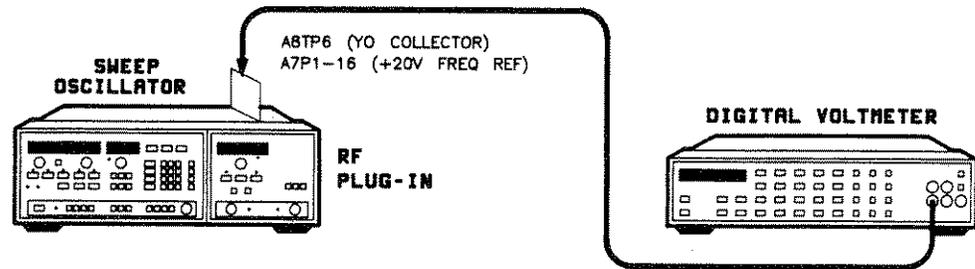
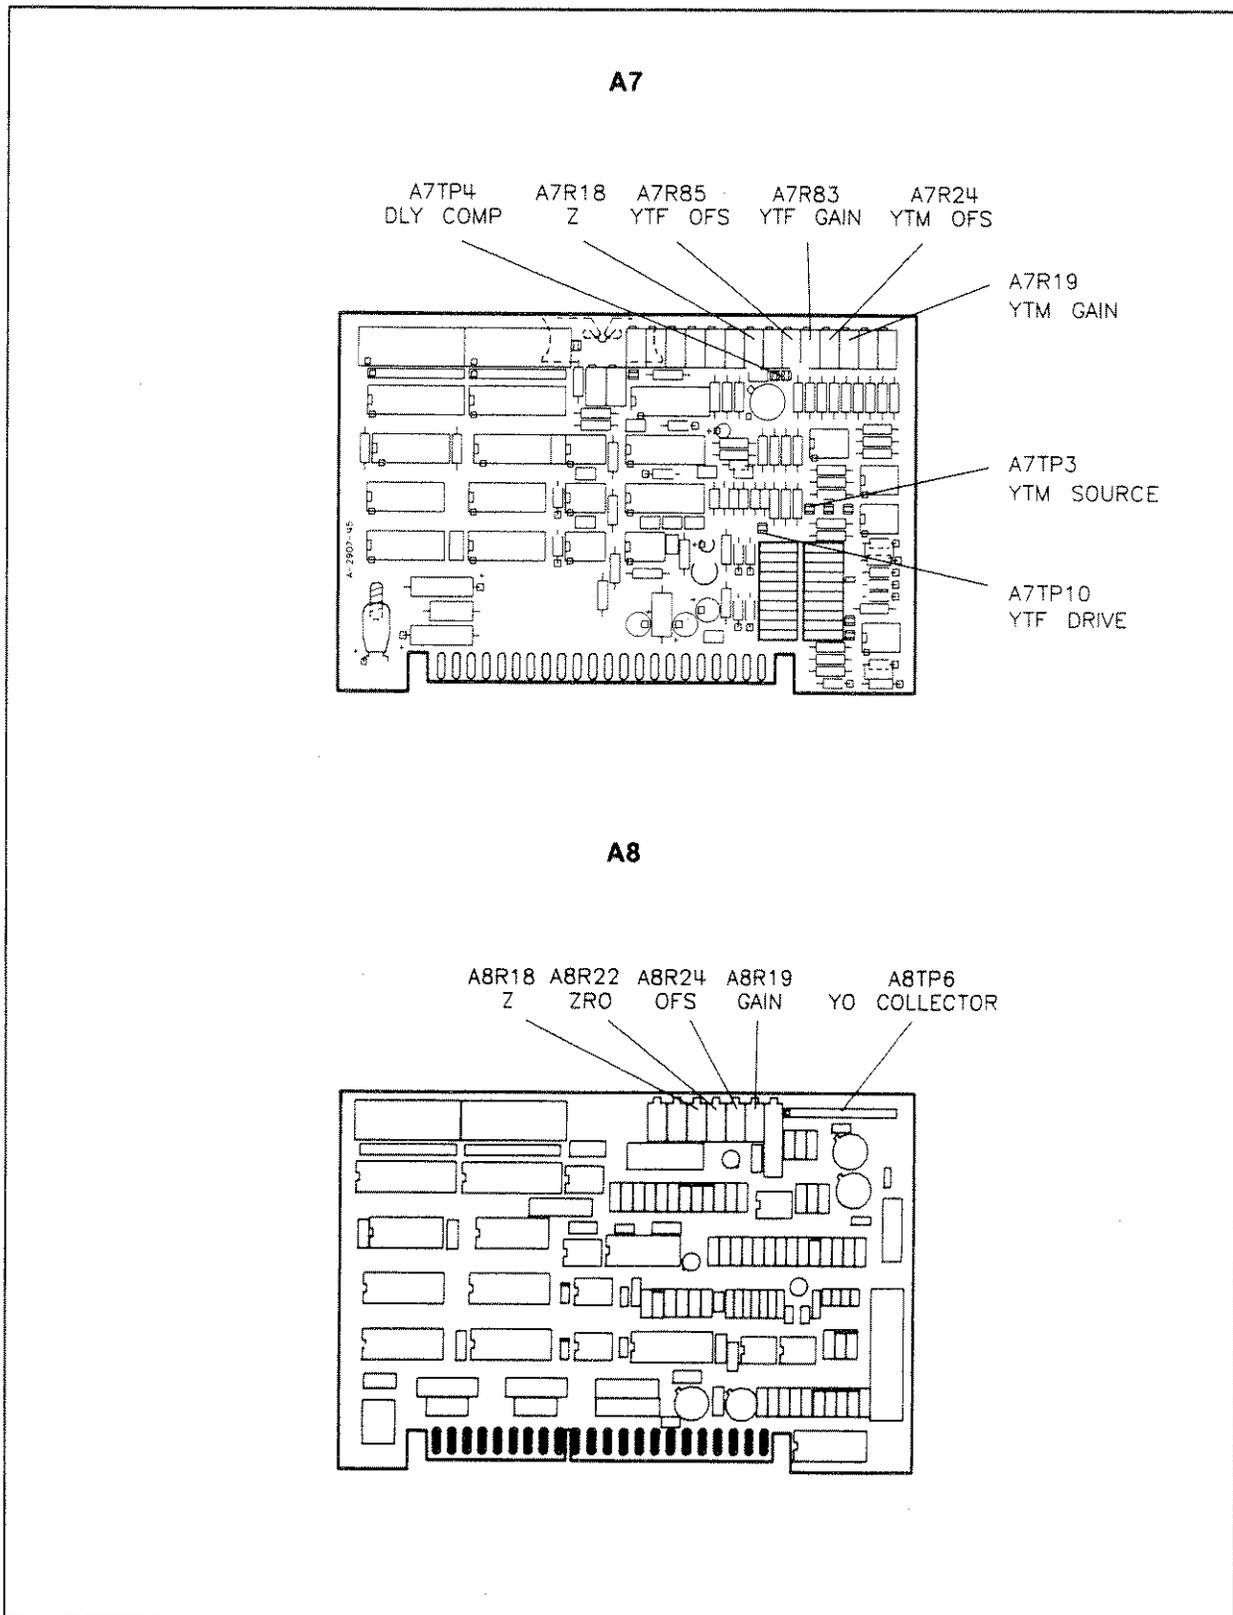

Figure 5-5. YO and YTM/YTF DAC Calibration Test Setup
Figure 5-6. YO and YTM/YTF DAC Calibration Adjustment Locations
1. Connect the equipment as shown in figure 5-5. First connect the DVM to A6TP9 (VTUNE) and the reference probe to A6TP10 (VTUNE RET). See figure 5-6 for test point and adjustment locations. Place the A7 board on the extender.